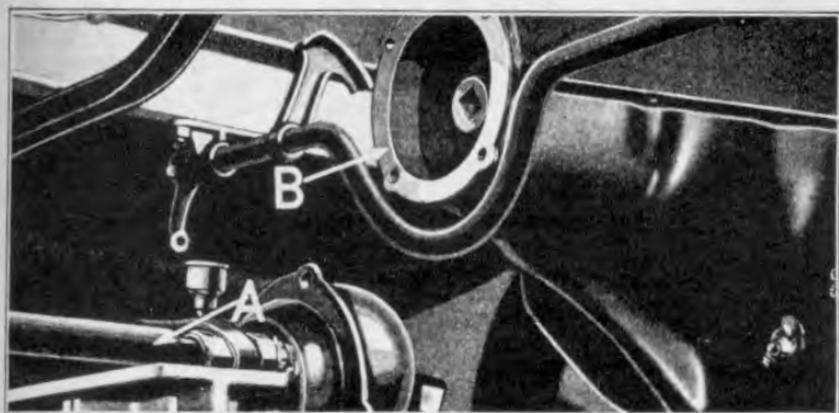

Fig. 316
- 550 Axle assembly can now be disconnected from transmission by withdrawing the assembly and lowering drive shaft tube onto a horse (See "A" Fig. 316).
- 552 Withdraw ball cap from end of drive plate shaft. (See "B" Fig. 316).